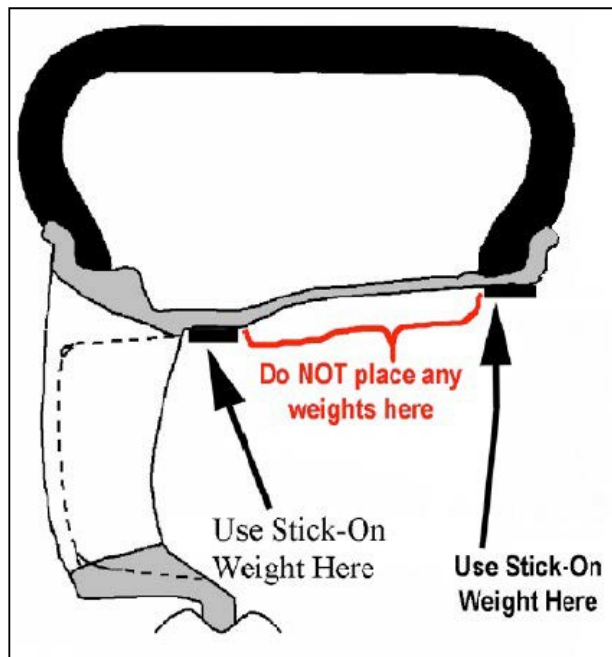

Figure 7a
- a. Mount wheel/tire on wheel balance machine using Hunter cone #213. Enable the LOAD ROLLER, if applicable, to ensure proper bead seating. See Figures 7a, 7b.